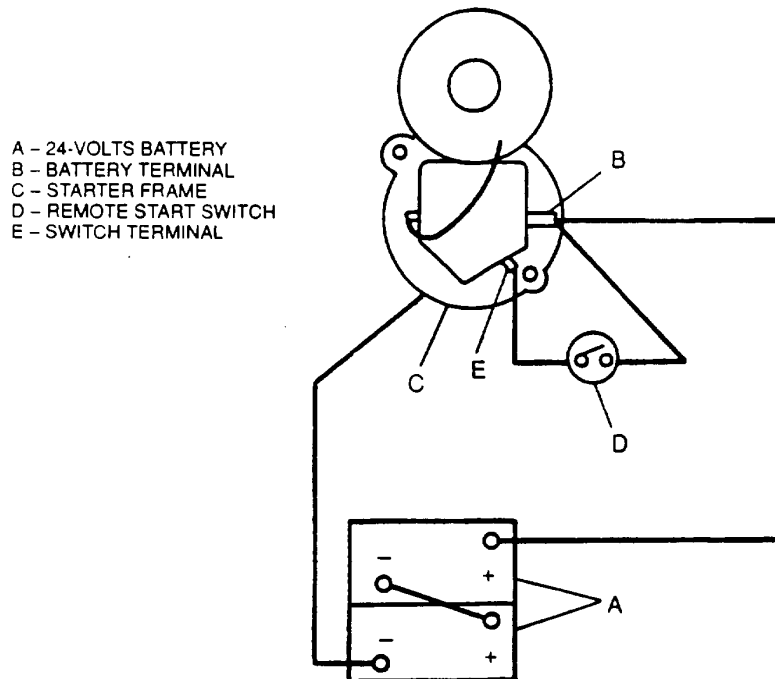

FIGURE 3-14. Starter Bench Test Setup
- e. Connect a 24 VDC source (A) to starter battery terminal (B) and starter frame (C) as shown. Use heavy duty cables, refer to FIGURE 3-14.
- f. Connect a remote start switch (D) between switch terminal (E) and battery terminal (B).